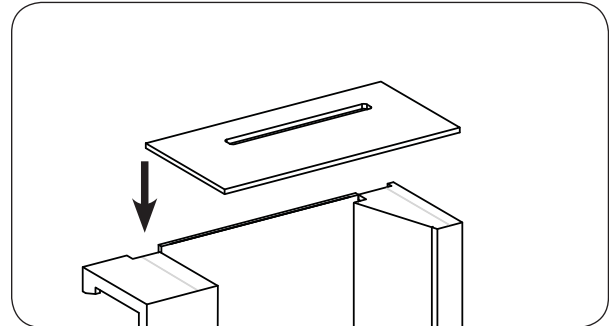

Fig. 16-2 Place top panel
6. Place the top panel as shown in Fig. 16-2 (no hardware required). It should rest on top of the firebox pieces below; use the tape found on the firebox pieces to properly locate.